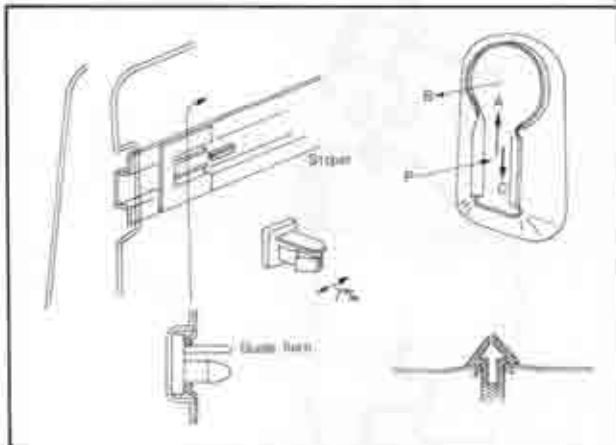

Fig. 14-41 Rear seat back
3. Raise the seat to full up position and pull it in the B direction shown in Fig. 14-41.
2. Push the rear seat back attaching fastener in P direction and press it down into the catch of the body as shown in Fig. 14-41.